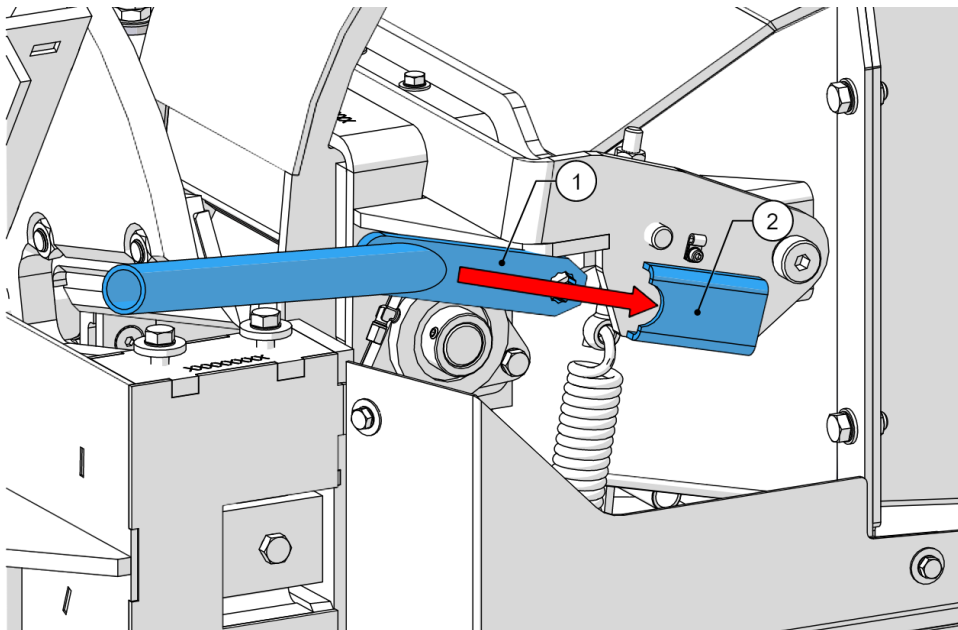

Figure 42 - Feed roller spring tension
11. Put the top feed roller lifting tool (1, Figure 42) into the slot (2, Figure 42).